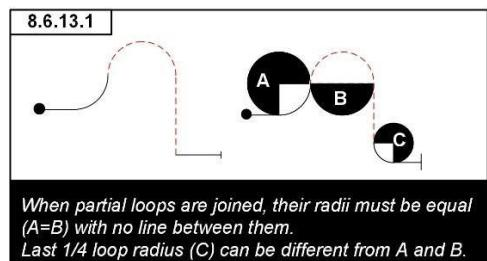

Figure 49
When $\frac{1}{4}$, $\frac{1}{2}m$, or $\frac{3}{4}$ loops join each other in these sub-families, the radii must be equal and there is no line between the loops. Inserting a line between joined loop segments requires a minimum two (2) point deduction depending on the length of the line (Fig. 49).